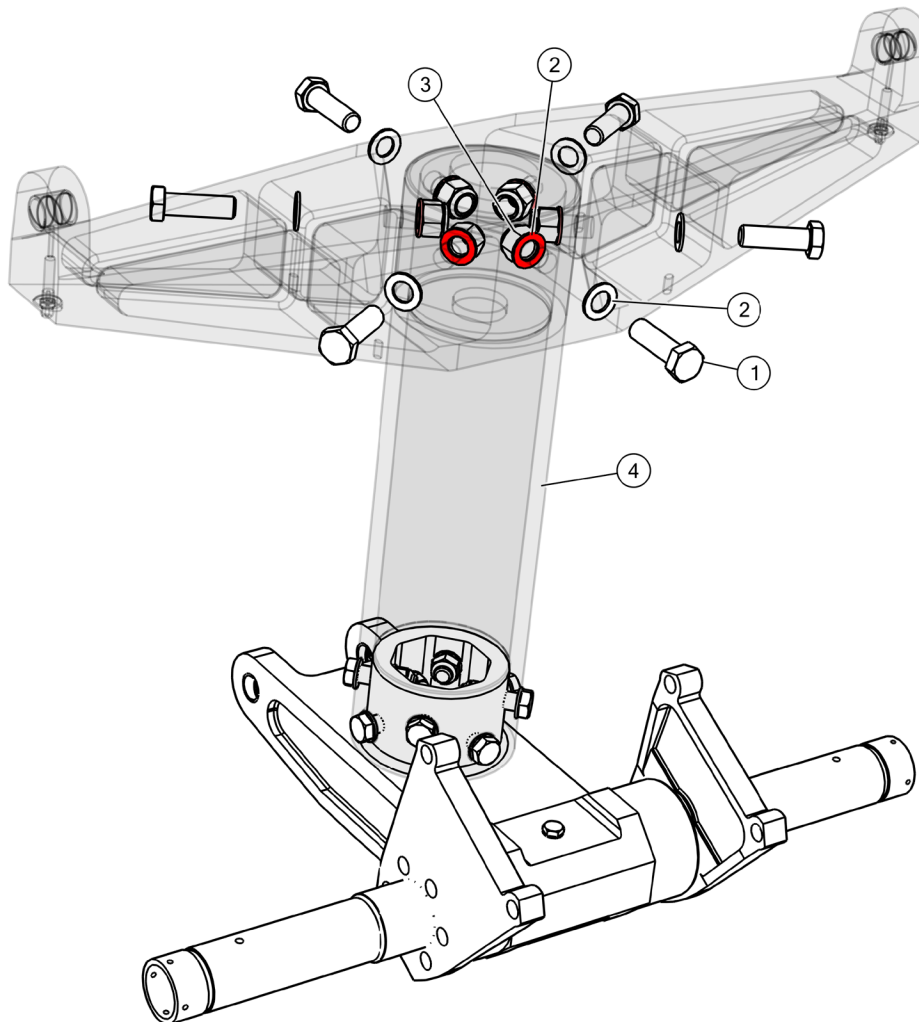
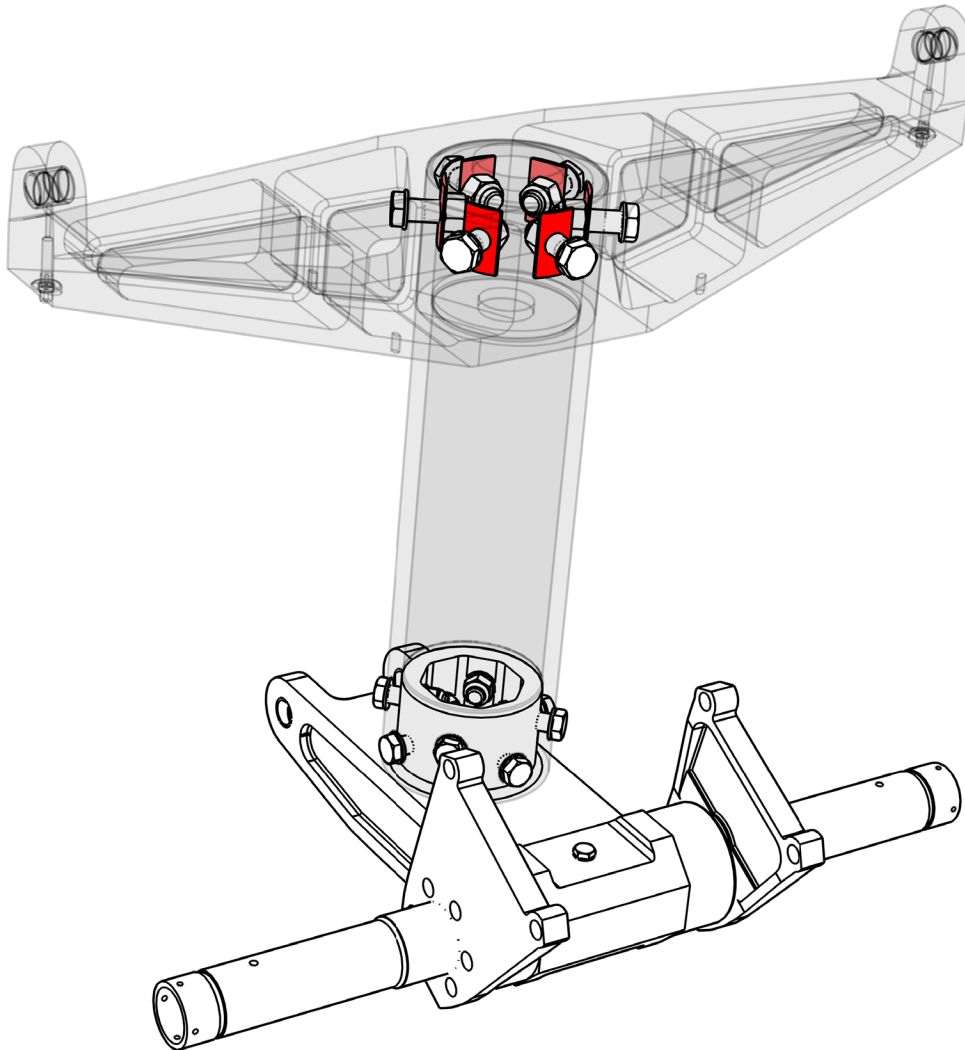

FIGURE 1: DRAG BRACE ASSEMBLY (TIRES NOT SHOWN)
FIGURE 2: DRAG BRACE ASSEMBLY WITH REVISED WASHERS (TIRES NOT SHOWN)
5. Remove the (2) AN10-31A bolts and associated (2) NAS1149F1063P washers and (2) MS21044N10 nuts that attach the drag brace assembly to the carry thru straps
6. Remove the top (6) AN8-14A bolts (figure 1, item 1) and associated (12) NAS1149D0863J washers (figure 1, item 2) and (6) MS21044N8 nuts (figure 1, item 3)
7. Inspect 13A04289-001 main gear drag brace tube for cracks where the (6) bolts were removed from. Replace the main gear drag brace tube if cracks are found
8. Replace the (6) NAS1149D0863J washers (shown as red in figure 1) with (6) 1008027 custom drag brace washers (shown as red in figure 2) and reassemble using new MS21044N8 nuts provided as shown in figure 2